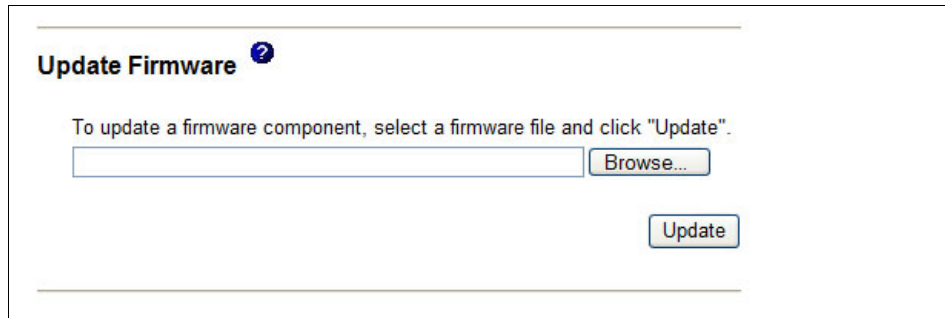

Figure 5-6 RSA II firmware update
6. If this is a new adapter (x260 or x366) or new server (x460 or MXE-460), you will be prompted to update the firmware (Figure 5-6). If not, select **Tasks** → **Firmware Update**.